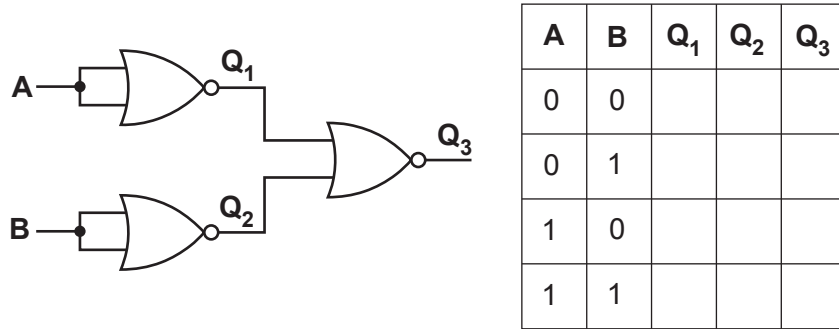

Fig. 12.5
- (iii) Fig. 12.5 shows a logic system and truth table.
- (iv) From the list below, circle the individual logic gate that will provide the same function as the logic system shown in Fig. 12.5.